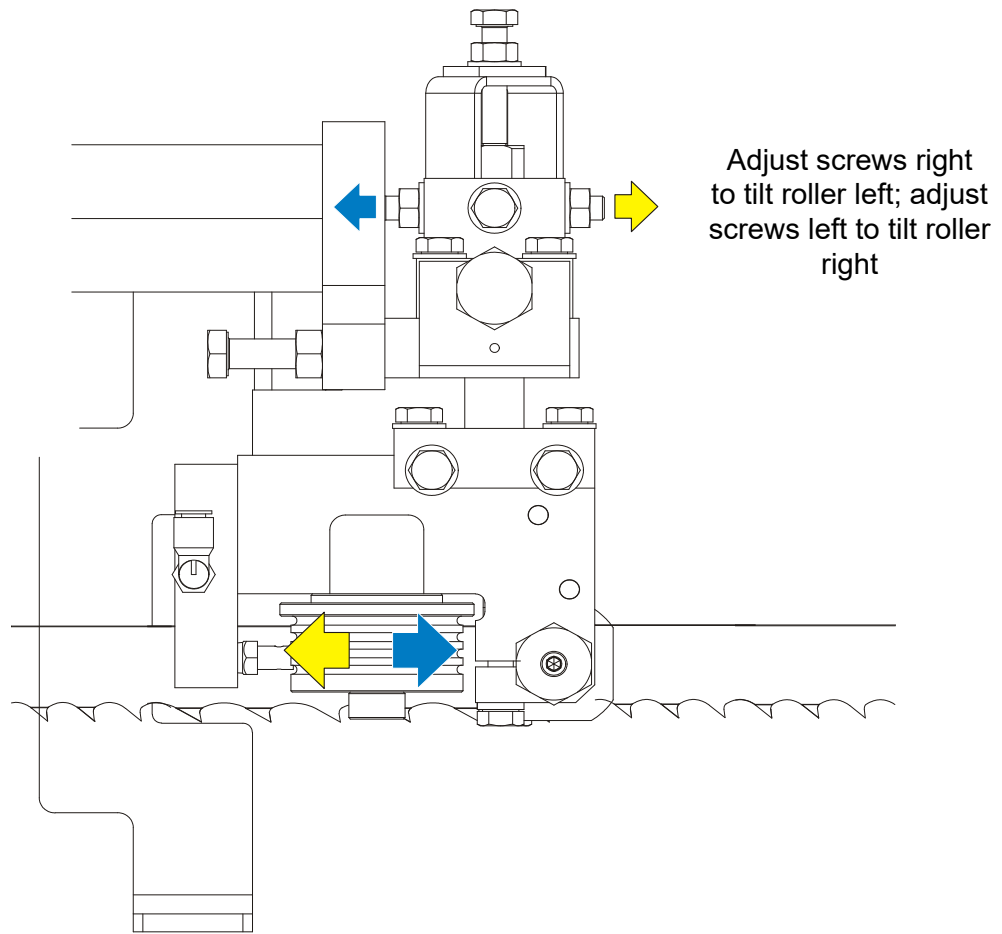

FIG. 5-11
**See Figure 5-11.** Loosen the jam nuts on the horizontal tilt adjustment screws. To tilt the roller left, loosen the right screw and tighten left screw. To tilt the roller right, loosen the left screw and tighten the